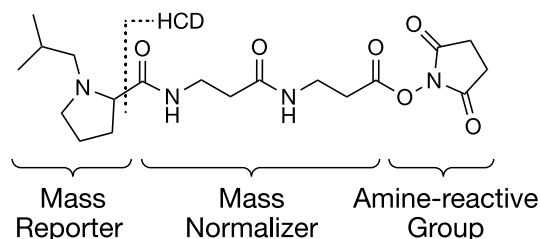

Figure 1 TMTpro reagent structure including functional regions and HCD fragmentation site
The Thermo Scientific™ TMTpro Mass Tag Labeling Reagents and Kits enable multiplex relative quantitation by mass spectrometry (MS). Each TMTpro reagent within the multiplex set has the same nominal mass (isobaric) and chemical structure composed of an amine-reactive NHS-ester group, a mass normalizer group, and a mass reporter (see Figure 1). The reagent set can be used to label up to 35 different peptide samples prepared from cells, biological fluids, or tissues. For each sample, a unique reporter ion (126–135 m/z) generated in the low mass region of the MS/MS spectra upon peptide fragmentation is used to measure relative protein expression levels (see “Data acquisition methods” on page 3).